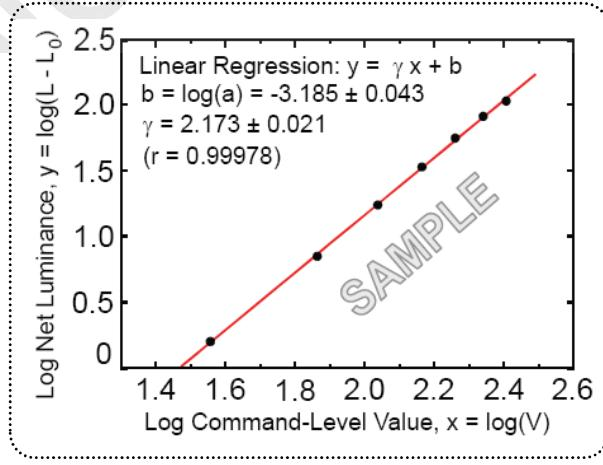

**FIG.11 Sample Luminance vs. gray scale
6. GSR is the rate of gamma shift at up, down, left and right 60 degree viewing angle compare with center gamma. For more information see FIG.11 and FIG.12 **(By EZ Contrast)**
The GAMMA we calculate from the log-log representation (FIG.11)